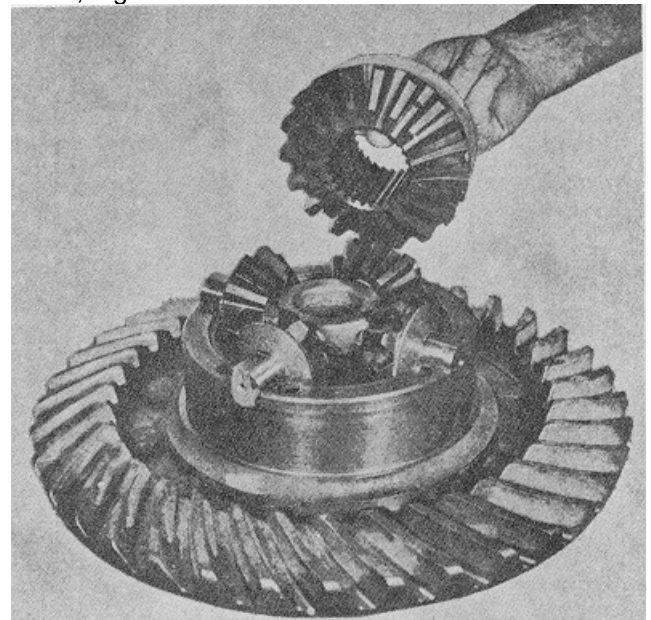

Figure 9C-55. Installing Side Gear
9. Place plain half of differential case in position on flange half, Figure 9C-56.